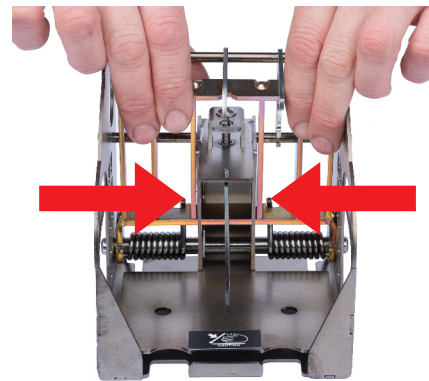

Figure 4
5. Rotate trigger catch so that it is resting in the central groove of the kill bar and on the trigger port (Figure 4).